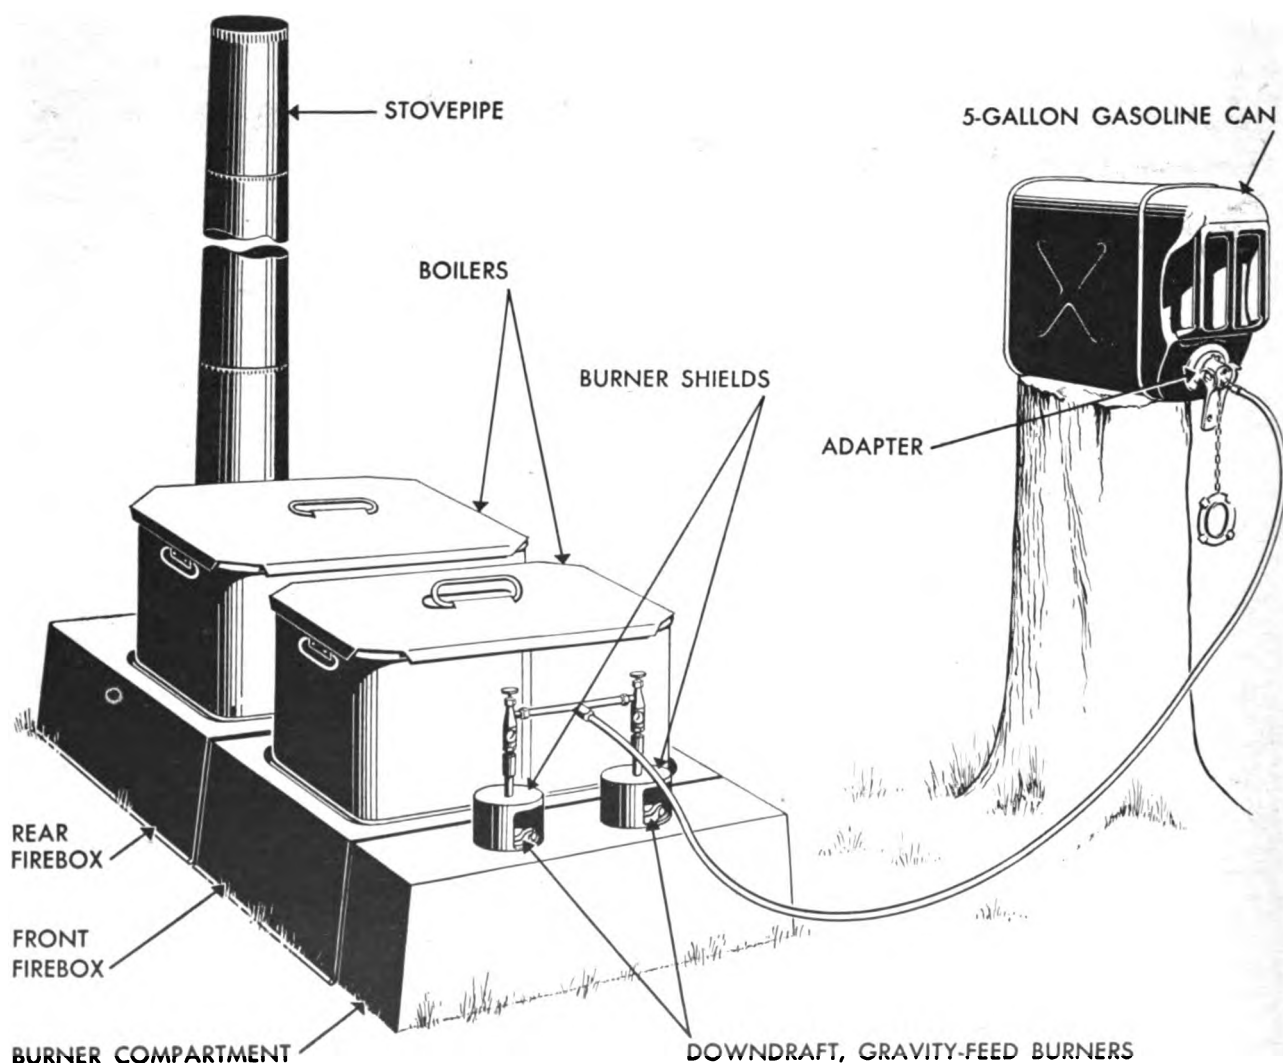

Figure 16. Outfit, cooking, pack (64-O-214) assembled for operation. Fuel container is placed at higher level than burners to provide gravity-feed.
a. The pack cooking outfit (stock No. 64-O-214) (see fig. 16) has been designed to replace the earlier cavalry pack cooking outfit and the mountain artillery cooking outfit. (See pars. 26 and 27.) The new outfit may be operated with gasoline, kerosene, fuel oil, or crankcase drippings, or if necessary, it may be fired with wood.
## 18. How to Assemble Range (see fig. 16)